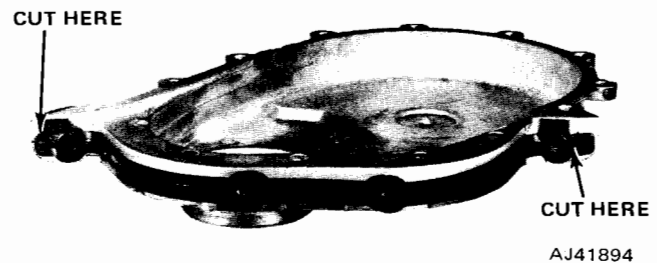

Fig. 1A-24 Oil Pan Front Seal Installation
(1) Apply seal compound, Perfect Seal or equivalent, to both sides of new timing cover gasket and position gasket on cylinder block.
(2) Cut end tabs of a new oil pan seal same as was cut off original seal.
(3) Coat seal end tabs generously with Permatex No. 2 (or equivalent) and position seal on timing case cover (fig. 1A-24).
(4) Position timing case cover on engine. Place Timing Case Cover Alignment Tool and Seal Installer J-22248 on crankshaft and seal opening of cover (fig. 1A-25).